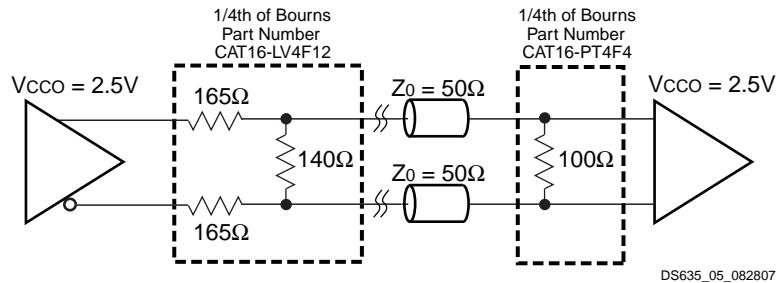

Figure 5: External Termination Resistors for BLVDS I/Os
2. Output voltage measurements for all differential standards are made with a termination resistor (R_T) of 100Ω across the N and P pins of the differential signal pair. The exception is for BLVDS, shown in Figure 5 below.